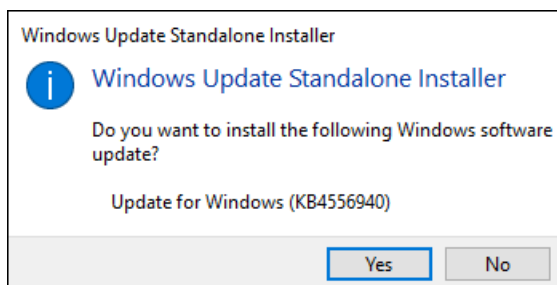

Figure 2-20. Windows Update Standalone Installer dialog—Service stack update
The installation program displays the Windows Update Standalone Installer dialog (Figure 2-20).
3. Click **Yes** in the Windows Update Standalone Installer dialog (Figure 2-20).